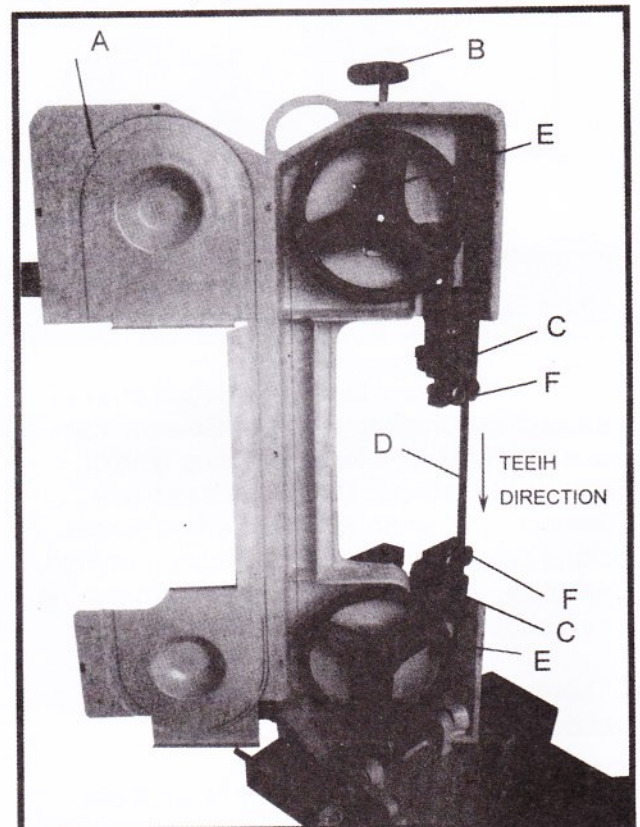

Fig.23
2. Raise the saw arm to the opening position as you can, and open the blade wheel cover (A) as shown in Fig. 23.
3. Release blade tension by turning blade tension hand knob (B) Fig. 23.
4. Remove the two finger guards (C) Fig. 23.
5. Slip blade (D) off both wheels (E) Fig. 23, and guide assemblies (F).
- Place the blade between each of the blade guide bearings (F) and around both wheels (E). NOTE: The teeth must be pointing down on the right hand side as shown by the direction arrow in Fig.
- Replace finger guards (C) Fig. 23, and adjust blade tension by turning hand knob (B).
- Close the blade wheel cover (A) Fig. 23.